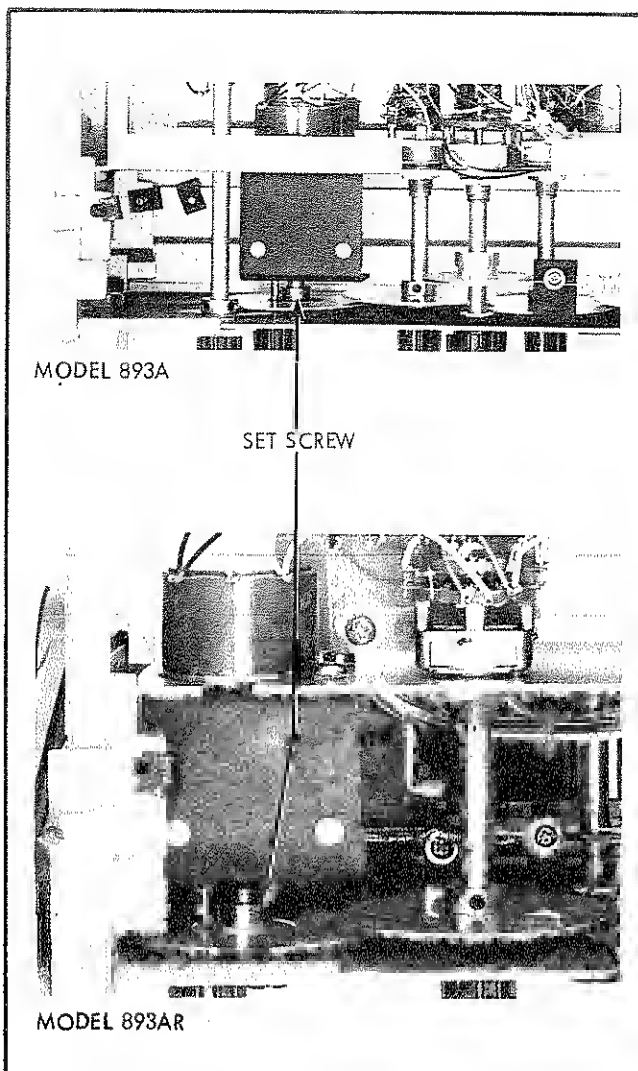

Figure 4-15. VERNIER DIAL SET SCREW LOCATION
- o. If the results of step n are not obtained, adjust the vernier Readout dial for an exact zero-center meter indication and loosen the set screw that secures the vernier dial indicator to the potentiometer shaft. Refer to Figure 4-15 for location of the set screw.